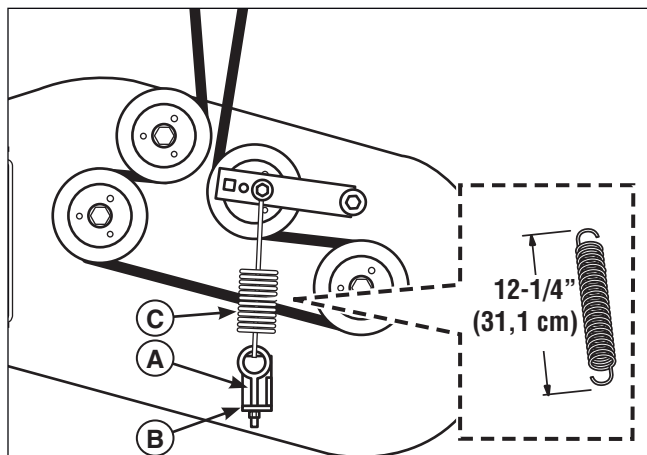

Figure 32. Mower Belt Tensioner Spring Measurement
8. Measure the mower belt tensioner spring (C, Figure 32). The measurement should equal 12-1/4" (31,1 cm). If the measurement does not equal 12-1/4" (31,1 cm), adjust the anchor eyebolt (A) by turning the adjustment nut (B) until a measurement of 12-1/4" (31,1 cm) is achieved.